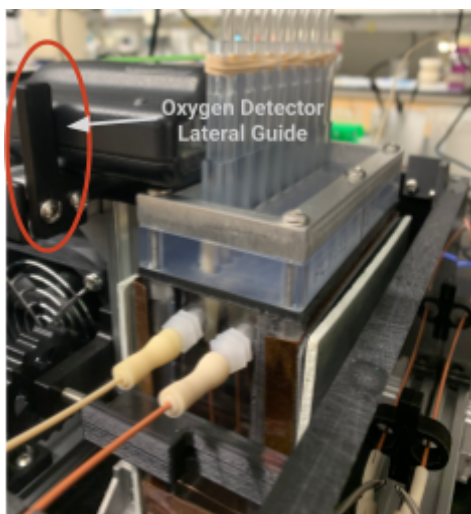

Fig. 6. Positioning of the Electric Stir Box, the MRM Heater, the MRM, the PCM and O₂ Detector on the BaroFuse Stand.
3. Secure the TCAs with the Rubber Band provided by stretching it around the fins of the PCM at the level of the rubber gaskets (Fig. 6).